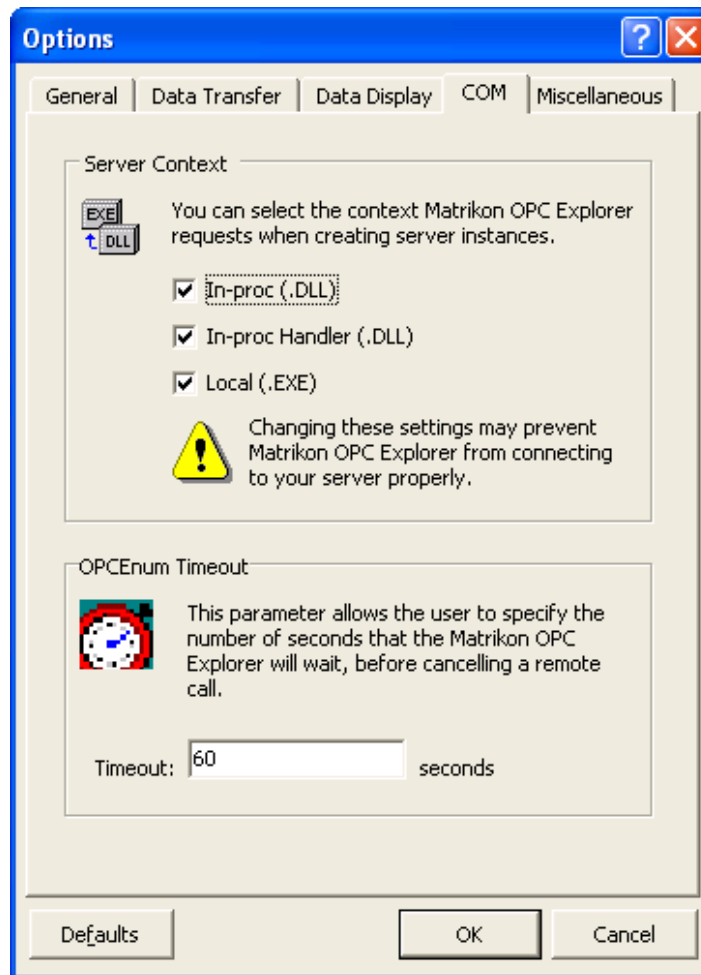

Figure 32 - COM Options Tab
3. From the **Options** window, select the **COM** tab (Figure 32).